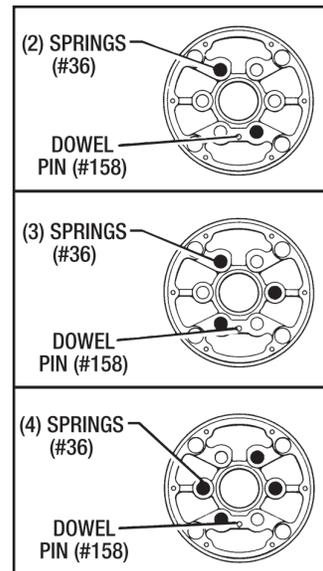

Figure 5 - Spring Placement
3. Place the correct number of Springs (#36) back into the spring pockets in the Housing (#8). (See Figure 5)